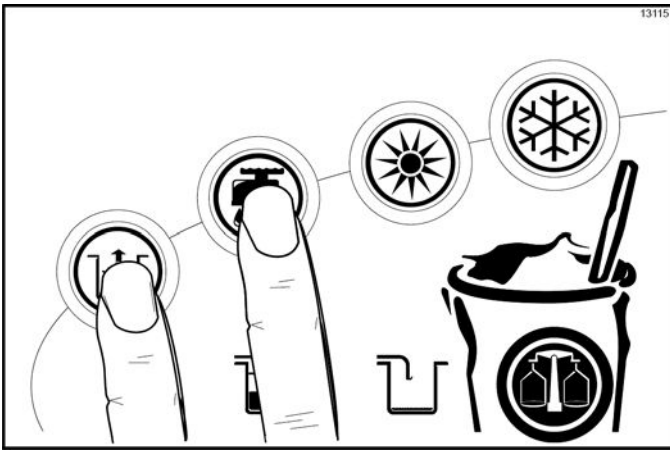

Figure 6-51
14. Press the Wash  and Pump  keys to stop the Wash and Pump modes and to close the draw valve. (See Figure 6-51.)